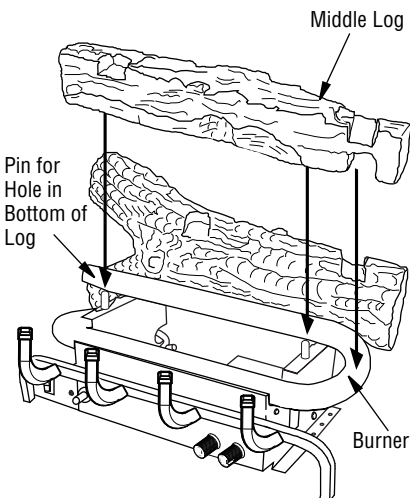

Figure 25 - Installing Middle Log
2. Place the middle log on base. Holes in bottom of log must seat over pins on base as shown in **Figure 25**.